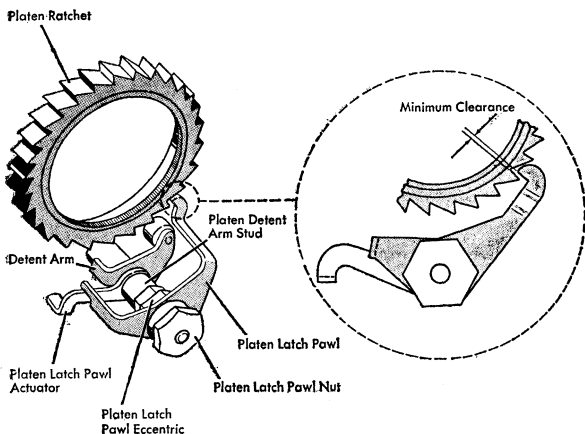

Figure 2. Platen Latch Pawl Eccentric Adjustment
- b. Place the detent release lever in its forward position to obtain the proper position of the platen by means of the detent roller. Move the detent release lever to its rear position and check for a minimum clearance between the engaging surface of the platen latch pawl and a platen ratchet tooth. Minimum clearance may be obtained by rotating the platen latch pawl eccentric (Figure 2).